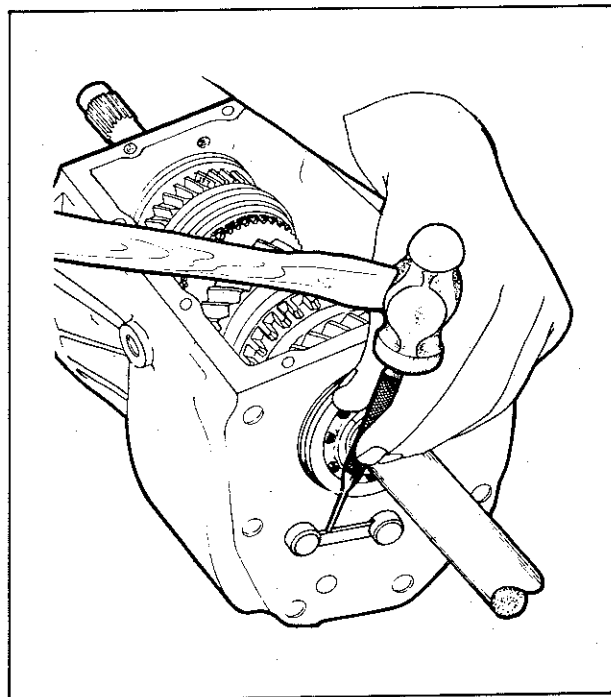

Fig. 5—Removing locking plate
- (7) Remove the inner snap ring from the reverse lever shaft, push the reverse lever shaft through the case and remove the reverse lever, reverse gear fork and torsion spring.
- (8) Remove the front bearing retainer.
- (9) Use a soft drift to knock the countershaft partly through from the front of the gearbox case to allow the lock plate to be removed, Fig. 5.